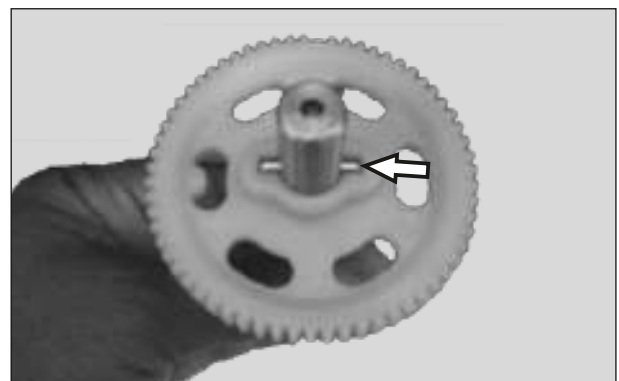

Fig. 3.30
- Separate the gear from shaft gearshift by taking out the lock pin. ( Fig. 3.30)